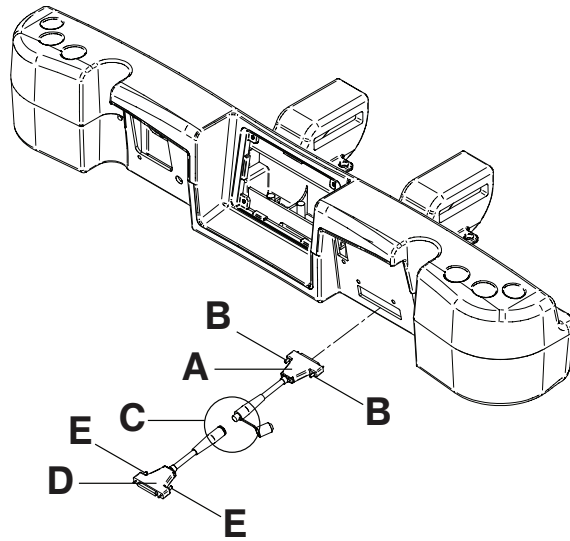

Figure 120 – Wall saver connections
1. Insert the pin end of the first connector (A) into the head end of the product (Figure 120).
2. Screw the connector fasteners (B) in to secure the connector to the product.
3. Connect the back end of the second connector into the back end of the first connector (C).
4. Insert the pin end of the second connector (D) into the wall.
5. Screw the connector fasteners (E) in to secure the connector to the wall.